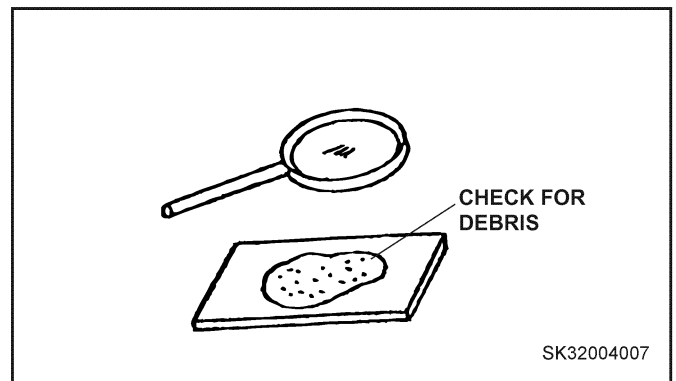

FIGURE 4.4C
F. Inspect Waste Oils and Filters– FIGURE 4.4C